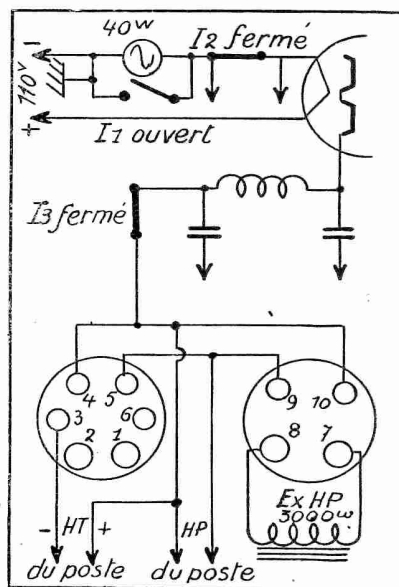

Fig. 7.
V. — ALIMENTATION D'UN POSTE A ACCUS EN HAUTE-TENSION A PARTIR DU COURANT CONTINU ET UTILISATION D'UN HAUT-PARLEUR ELECTRODYNAMIQUE (Fig. 7)